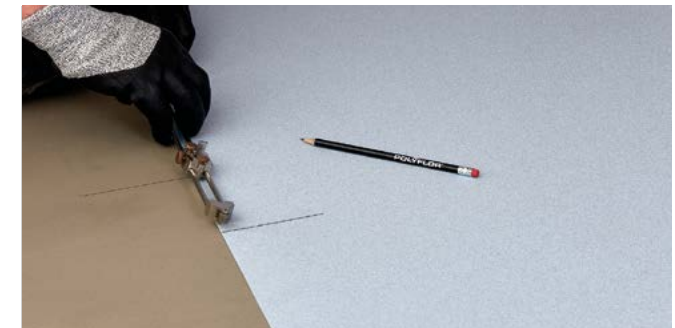

Figure 14 Scribing the wall profile
- ▶ Set the scribers to the distance now between lines C and D (Fig 14)